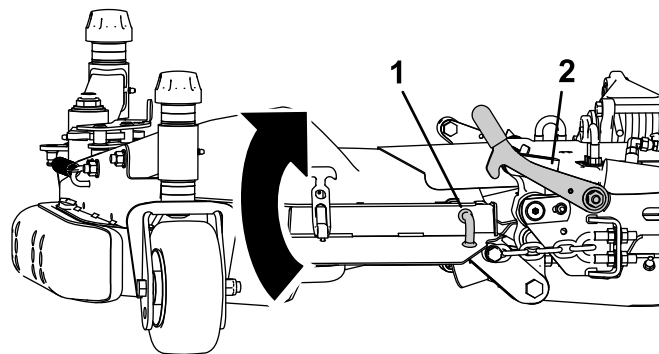

Figure 10
1. Raise the deck wing and secure the latch pin to the latch handle (Figure 10).